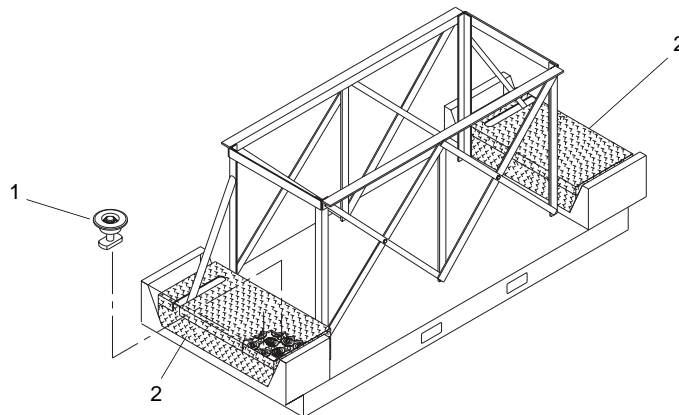

Figure 9. Deck Mat Lockdown Assembly
1. Remove all deck mat lockdown assemblies (figure 9, item 1) from container toolboxes (figure 9, item 2).